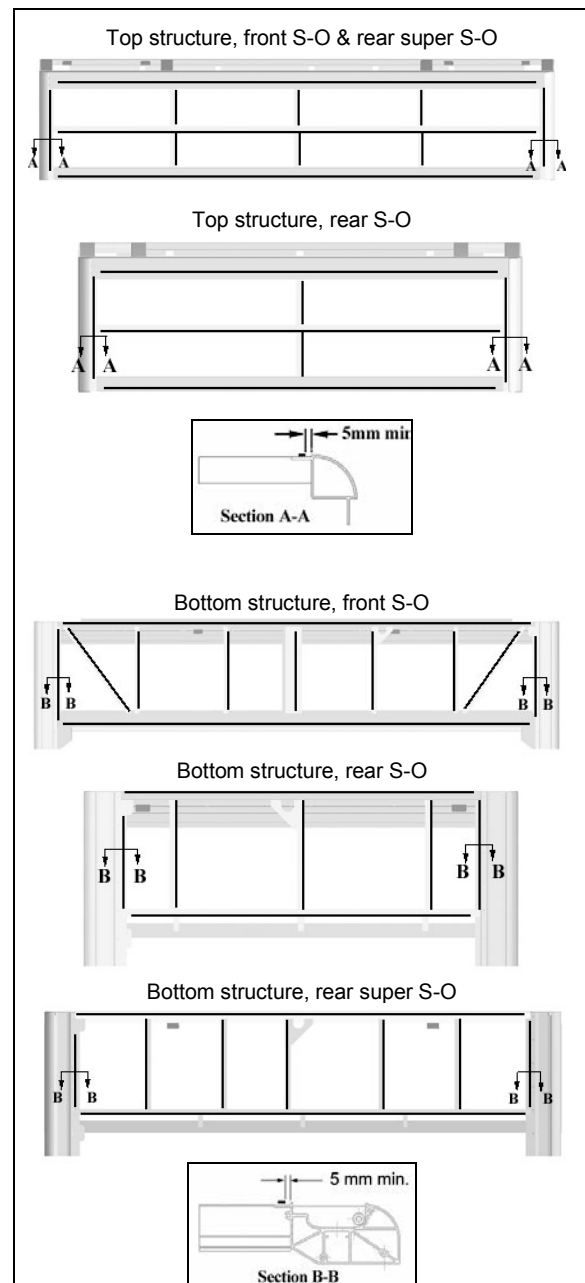

FIGURE 49 : TOP AND BOTTOM PANEL INSTALLATION - DOUBLE FACE ADHESIVE TAPE APPLICATION
2. Refer to FIGURE 49 for 1/16x1/4 double face adhesive tape location on structure [5mm≈6/32”];